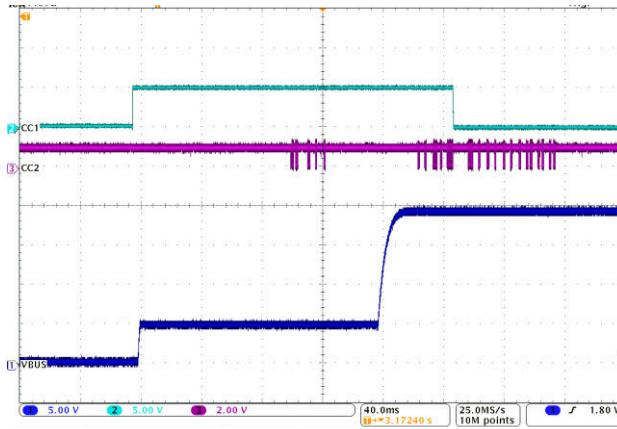

Figure 7-5. USB Type-C™ Connection and PD Negotiation
- Probe VBUS, CC1, and CC2 to check for any anomalies. Figure 7-5 shows a successful power contract.